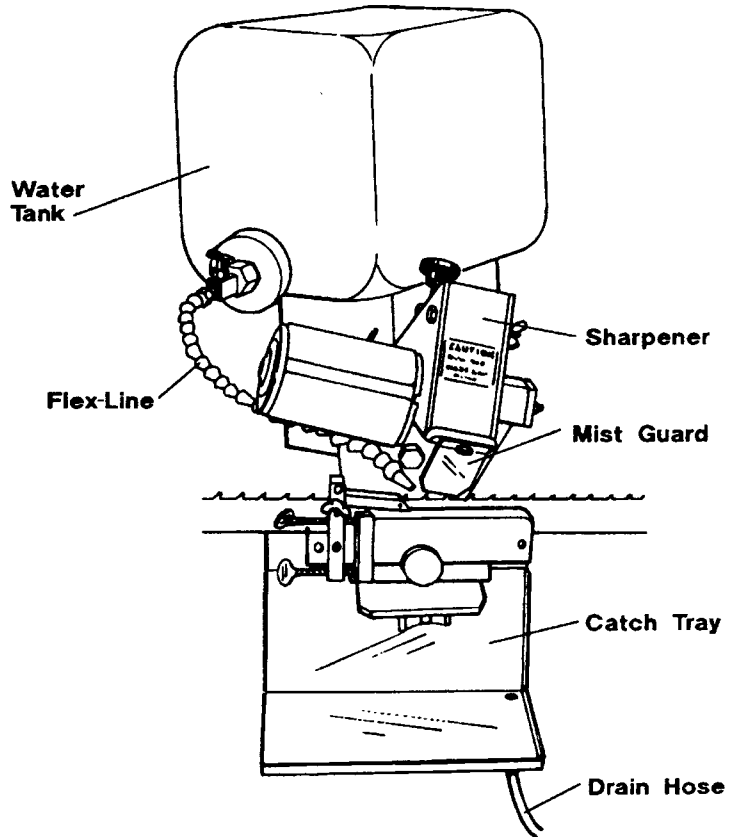

FIG 2-8
4. **COOLANT MIXTURE:** Fill the five-gallon jug with approximately 4 gallons of water. Add to the water about 1/3 of a bottle of coolant concentrate provided. Set the jug to left and behind the sharpener (See Figure 2-8). Lay the jug on its side so that the valve is at the lower front. Elevate the jug so that the bottom of the jug is no lower than the top of the blade set in the sharpener. Assemble the drainage hose to the valve underneath the catch tray. Drain the coolant into a bucket as it can be reused several times.